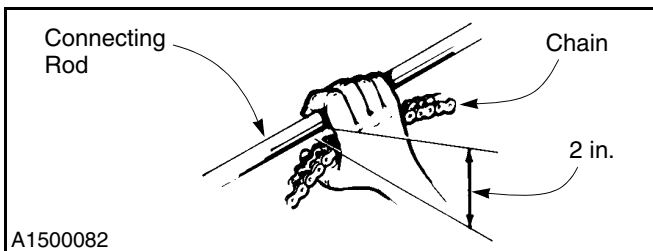

Figure 28
3. Squeeze the chain and connecting rod together at the center of the door. There should be a 2-in. gap between the chain and the rod. (See Figure 28.) If the chain requires adjustment, proceed to step 4 below. Otherwise, go to step 6.